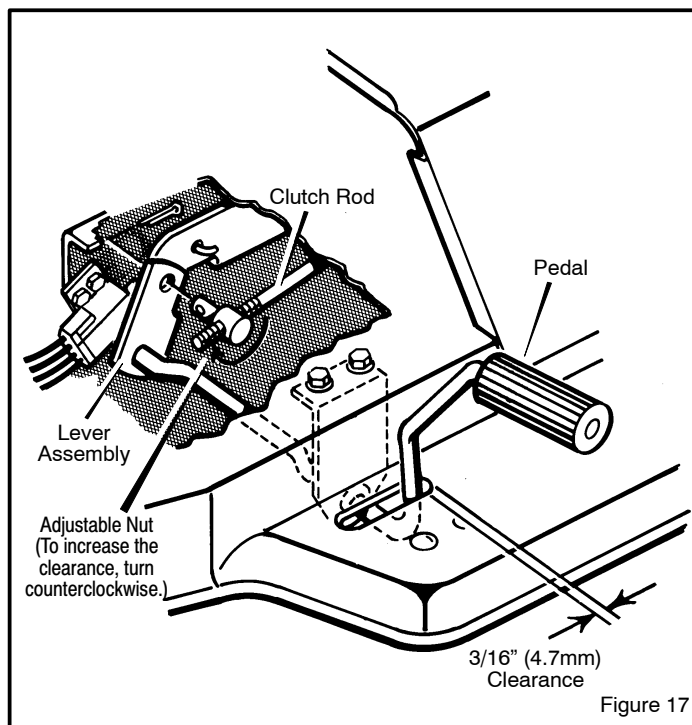

Figure 17
If the motion drive belt is loose, the clutch will slip when; (1) going up a hill, (2) pulling a heavy load, or (3) the unit will not move forward. Check the clearance at the rear of the **pedal** (Figure 17). If the motion drive belt is loose, the clearance will be less than **3/16 inch** and the clutch will slip. Adjust the clutch as follows.
2. Disconnect the **adjustable nut** from the **lever assembly** (Figure 17).